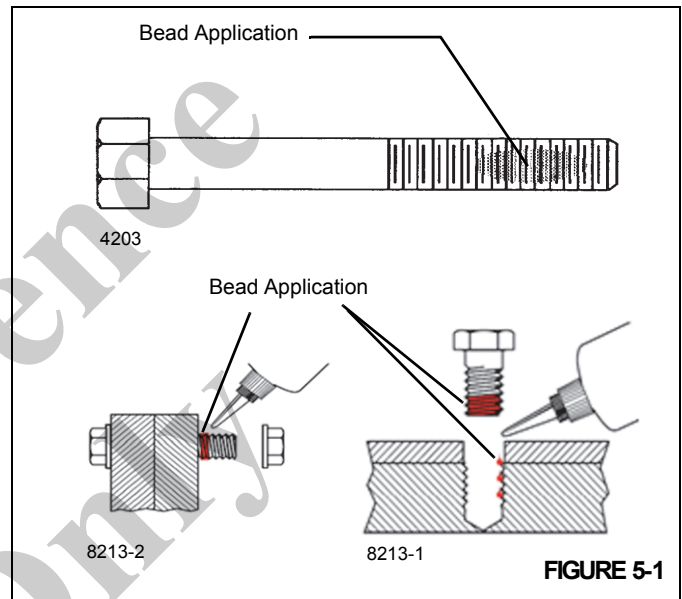

FIGURE 5-1
1. Apply a bead perpendicular to the thread, several threads wide, in the approximate area of threaded engagement (see Figure 5-1).
3. After application and engagement of mated threads, fixturing will occur within five (5) minutes. Time required to achieve full strength is 24 hours.